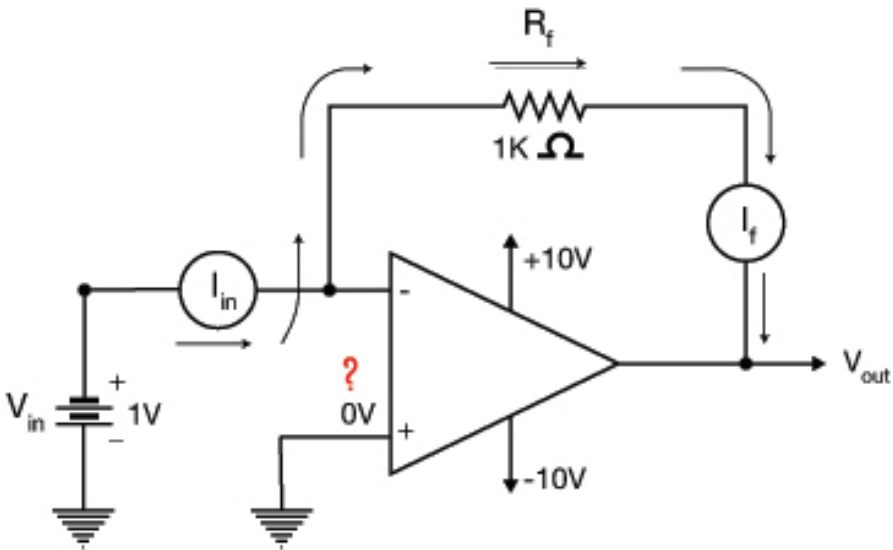

Figure 17.3 Current-to-voltage converter.
Figure 17.3 shows an op-amp circuit connected as a **current-to-voltage converter**. This circuit is essentially an inverting op-amp without an input resistor. As a result of this, all of the input current (I_{in}) is applied directly to the inverting input. Since the inverting input of an ideal op-amp has infinite impedance, it is considered to be at **virtual ground** or 0 V as indicated. This then means that all of I_{in} must now flow into the feedback resistor (R_f). The path of this current flow is shown by arrows. As a result of this, an output
Refer now to **Figure 17.3**. Note that when 1 V is supplied by V_{in} , it causes 0.001 A of I_{in} to flow through R_f . When this occurs, what is the V_{out} of the circuit?
What is the V_{out} of the current-to-voltage converter shown in **Figure 17.3**, which has a V_{in} of 2 V, developing 2 mA of I_{in} , that flows through a 2000- Ω load resistor?
8. The voltage-to-current converter in **Figure 17.3** has: